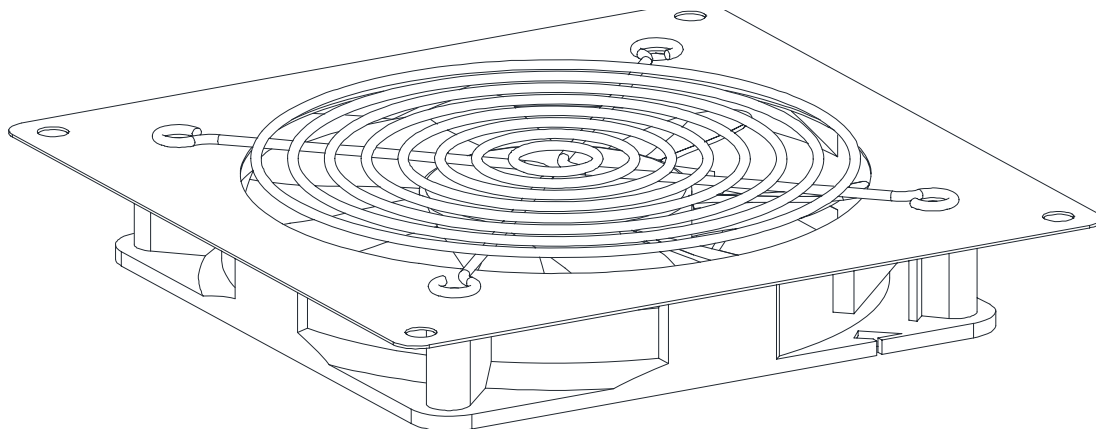

Figure 11
- Unscrew the 6 screws on Separator Cover one by one (**Figure 11**);